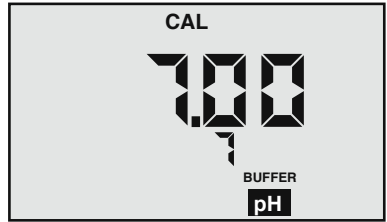

Figure 3
4. Press  to enter calibration mode. The “CAL”, “BUFFER” and “7” annunciators will appear (see Figure 3). Displayed value will be the uncalibrated sensor.